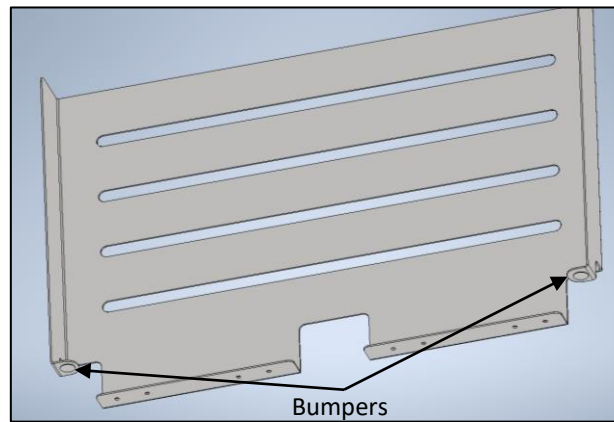

Figure 1
1. Remove the peel strip from the face of the rubber bumper provided, then place the bumper on the bottom of the slat wall tabs (Figure 1)